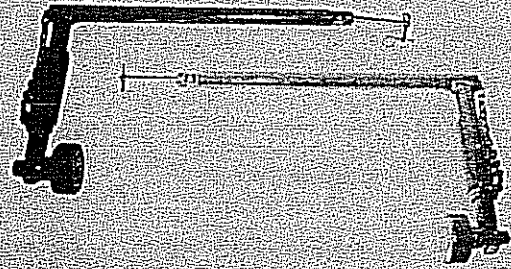

Fig. B-2
**Note:** Arms are right and left. To determine, lay arm in position in front of machine. (See Figure B-2) Chain should be up.